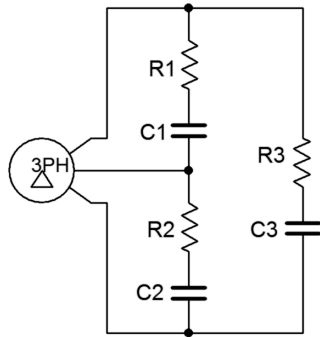

Figure 9.9
17. A 120 volt 3-phase Δ connected generator feeds a Δ connected load consisting of 3 legs of 75Ω in series with $-j10 \Omega$ of capacitive reactance as shown in Figure 9.9. Find the voltage across each load leg, the current through the wires connecting the load to the generator, and the apparent and real powers drawn by the load.